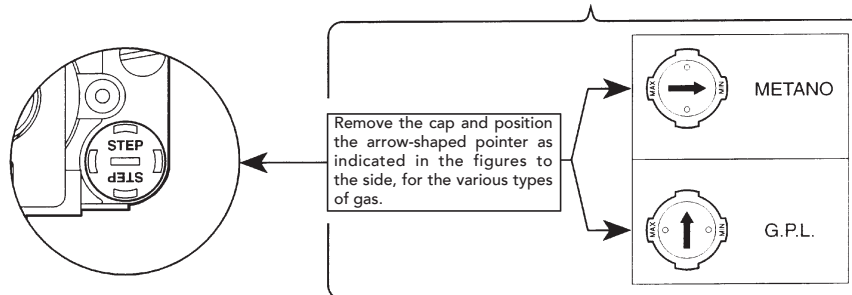

fig. 12
- Remove the small protective cap 3 from the gas valve (see fig. 12).